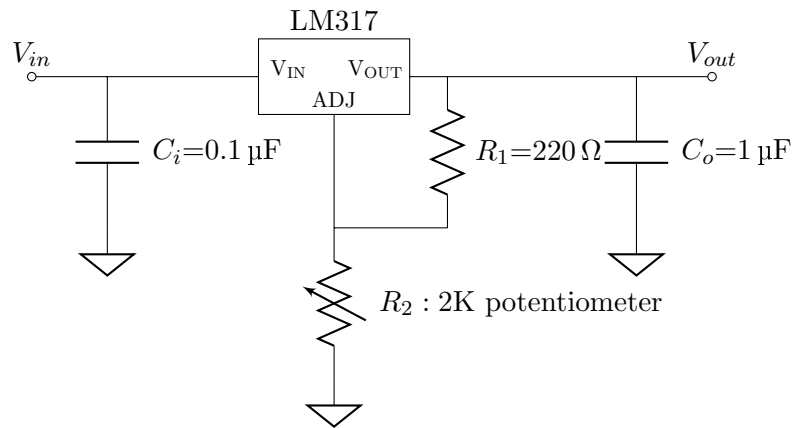
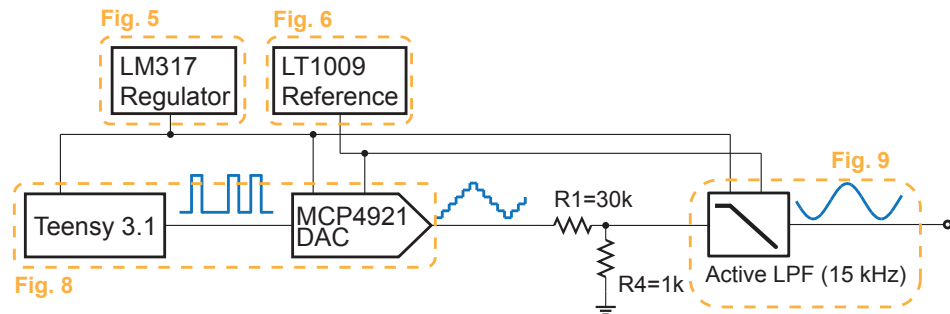

Figure 5: Schematic of the voltage regulator circuit using LM317.
Figure 13: Block diagram of the PCB design.
1. Using Fig. 5 as a reference, build the regulator circuit on the breadboard. You should be able to find the LM317 pinout diagram from its datasheet, which you find from online. *As a general suggestion, it is important to keep your circuit well laid out and keep the connecting wires as short as*
Design a PCB incorporating the circuits of Fig. 5, 7, 9, and 10. We will add a resistive attenuator circuit just so that the output does not easily saturate. Fig. 13 shows a high level block diagram of the PCB.